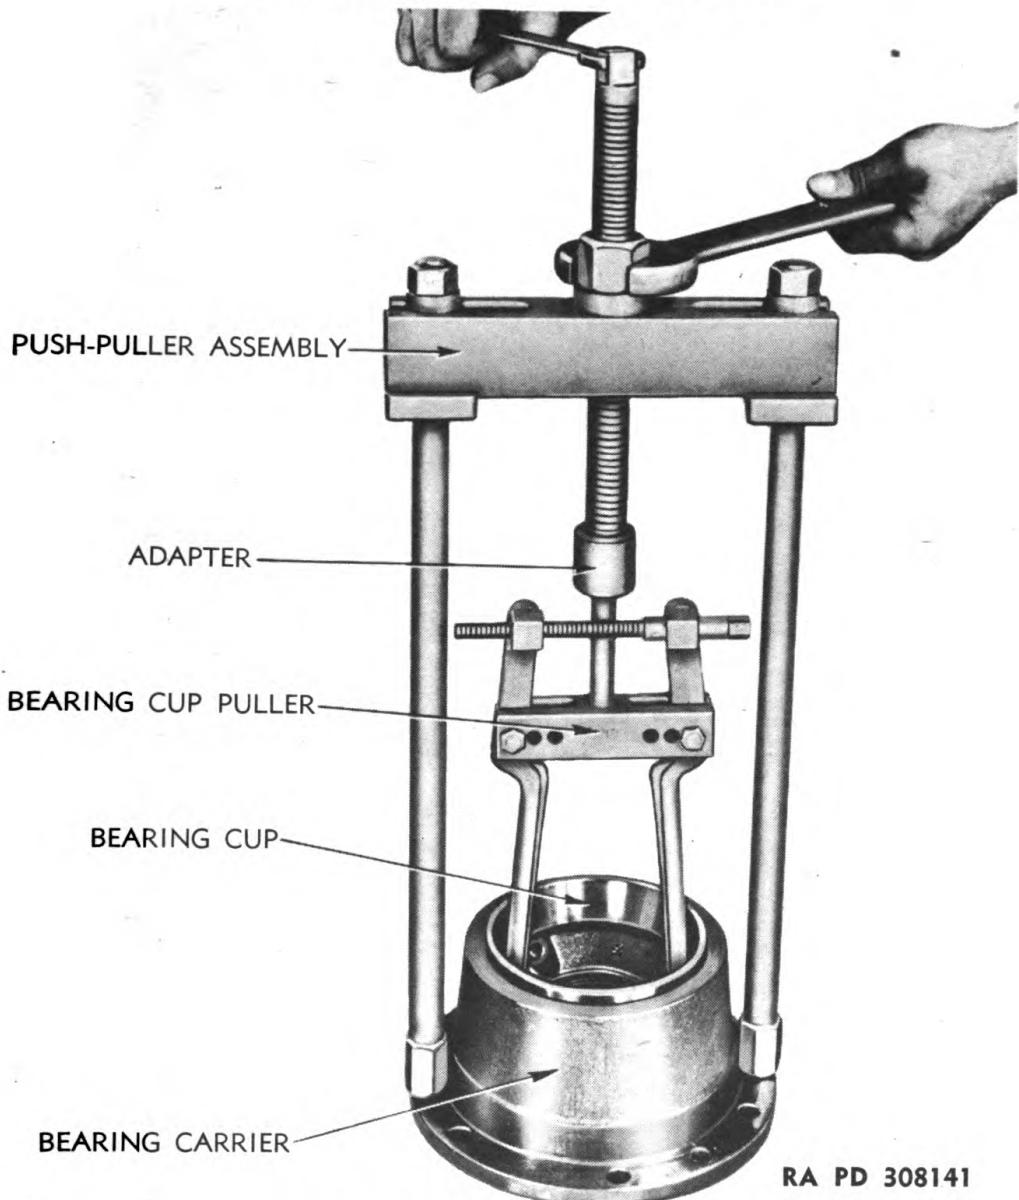

Figure 41 — Removing Bearing Cup From Bearing Carrier, Using Puller (41-P-2905-60)
f. Remove Bearing Cup and Oil Seals From Differential Bearing Carriers. Assemble bearing cup puller (41-P-2905-60) as shown in figure 41 and pull bearing cups from bearing carriers. Removal of the oil seals in bearing carriers will necessitate the installation of new seals as the old ones will be damaged.